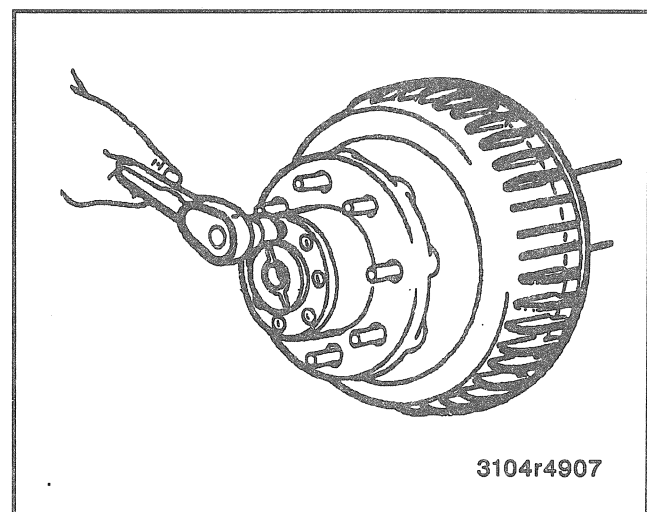

Figure 26—Removing or Installing Flange-to-Hub Bolts
Remove or Disconnect (Figures 26 and 27)
Install or Connect (Figures 26 and 27)
2. Bolts (Figures 26 and 27).